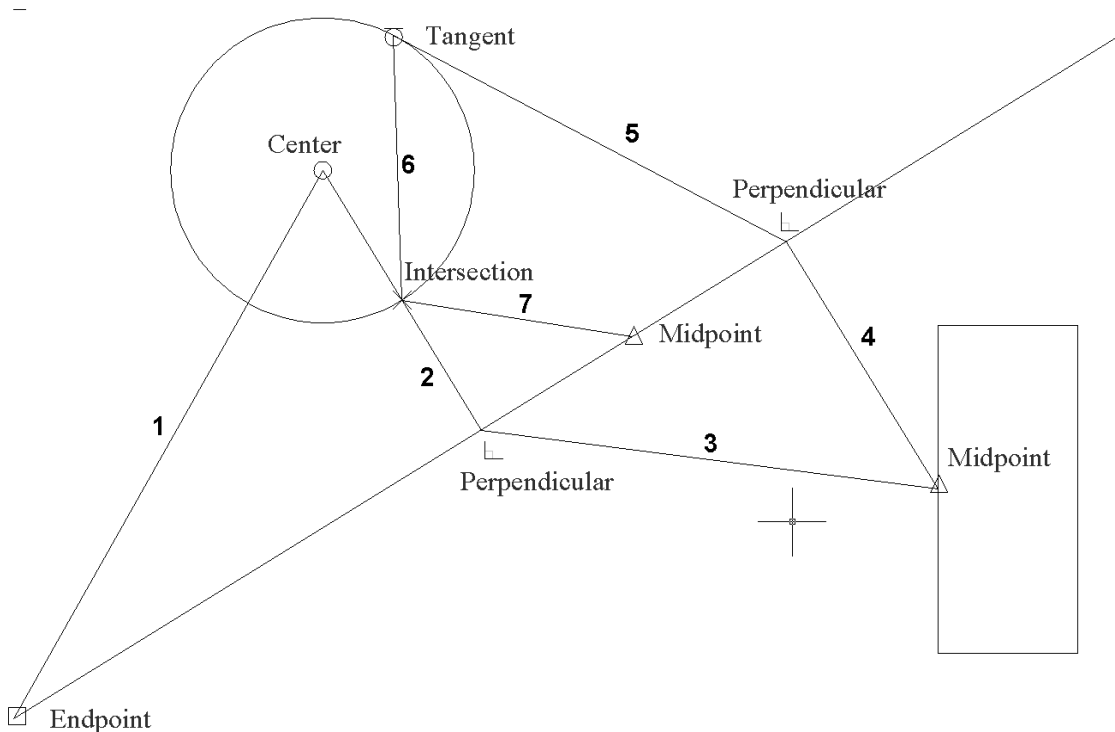

Figure 2-2.7 Several lines added using running OSNAPs. The numbers indicate the order the lines are to be drawn in.
8. Draw the additional lines shown in **Figure 2-2.7** using the appropriate *Object Snap* (changing the *Running Snap* as required to select the required point).